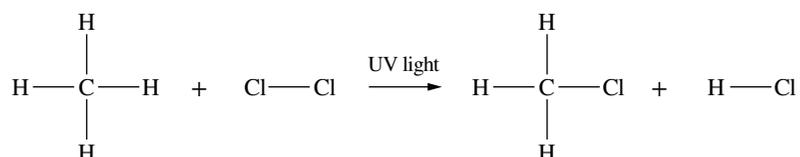

FIGURE 8.4.1 Methane reacts with chlorine gas. A chlorine atom is substituted for a hydrogen atom on the methane molecule.
Alkanes can react with halogens, such as chlorine and bromine, in the presence of ultraviolet (UV) light. In these reactions, a carbon–hydrogen bond is broken and replaced by a carbon–halogen bond. This type of reaction is called a substitution reaction. An example of a substitution reaction is shown below in Figure 8.4.1.